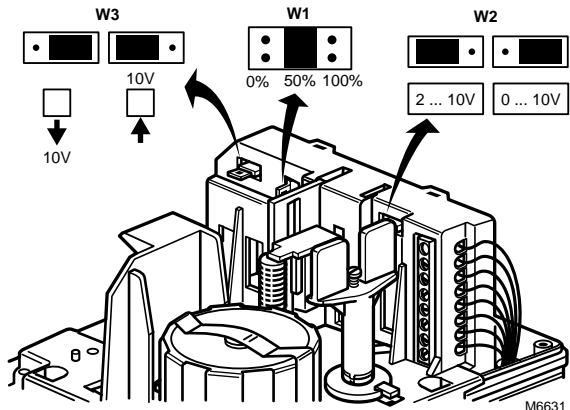

Fig. 15. Location of W1, W2, and W3 selector plugs.
The analog input signal (+) range is set at the factory to 0 to 10 Vdc. Changing the position of the W2 selector plug sets the range to 2 through 10 Vdc. Selector plugs W1, W2, and W3 are positioned on the back side of the printed circuit board. See Fig. 15 for location of the selector plugs.
The direction of actuator action can be changed by repositioning selector plug W3, which is factory set so that the actuator drives the valve stem down on increasing signal and draws it up on decreasing signal. When the valve stem is up, the output signal from the feedback (F) function is 0 or 2 Vdc. The output of the signal does not change when W3 is used to reverse the action of the actuator. See Fig. 15.